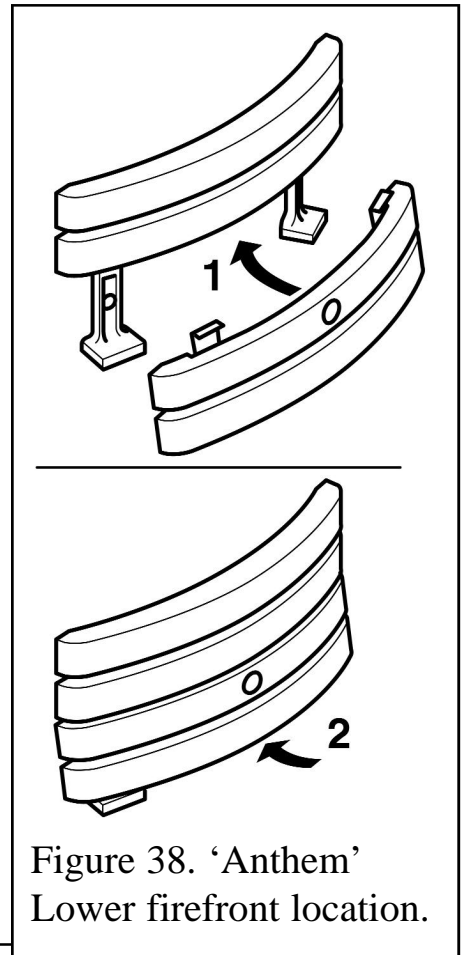

Figure 38. 'Anthem' Lower firefront location.
5. Locate the lower firefront casting as in figure 38.